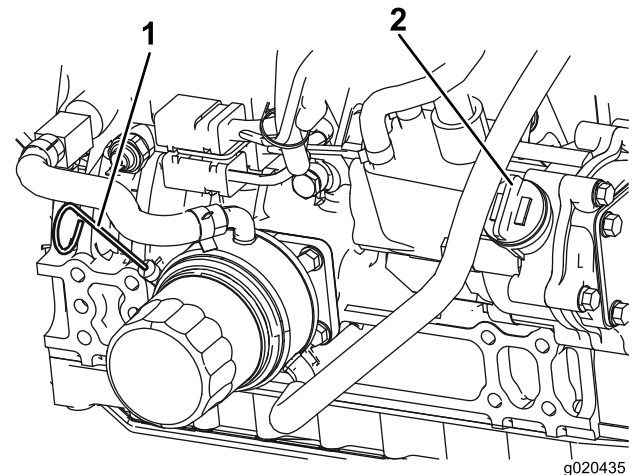

Figure 23
The oil level should be in the safe range (Figure 23).
4. If the oil is below the safe range, remove the fill cap (Figure 23) and add oil until the level reaches the Full mark. **Do not overfill.**